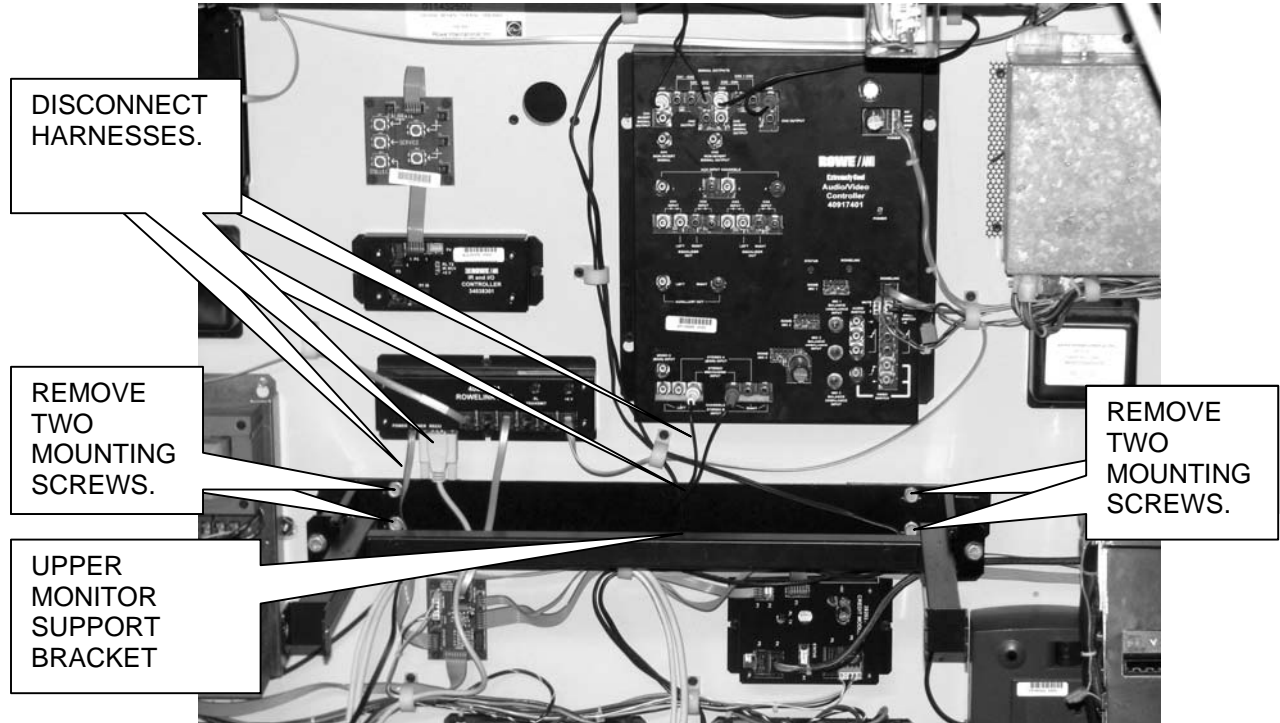

Figure 7 Removing the upper Monitor Support Bracket
2. Disconnect the harnesses that are routed over the Upper Support Bracket noting their locations, they will be reconnected after the Upper Support Bracket removal. Remove the four mounting screws shown in *Figure 7*. Connect the harnesses previously removed. Refer to *Figure 7*.